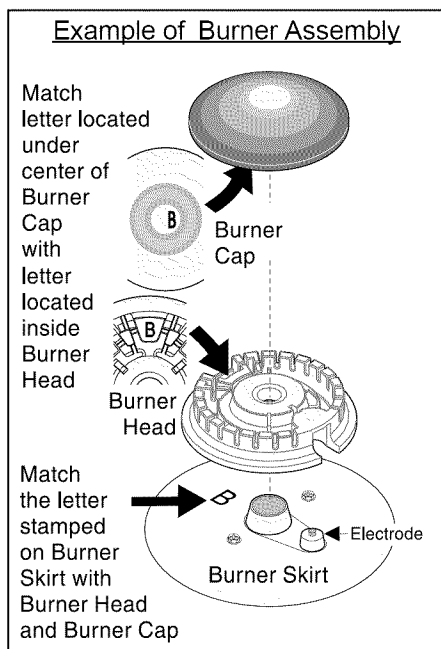

Fig. 4
- Replace all the burner Heads & Caps. Match the letter located under center of Burner Cap with letters located inside the Burner Heads (See Figs. 4 & 5).
- Match the letter stamped on the Burner Skirt with the Burner Head and Burner Cap. Each of the five Burner Heads **MUST** have a Burner Cap installed to insure proper ignition and gas flame size. Note: The Burner Electrodes must be located properly in slot of each Burner Head (See Fig. 4).